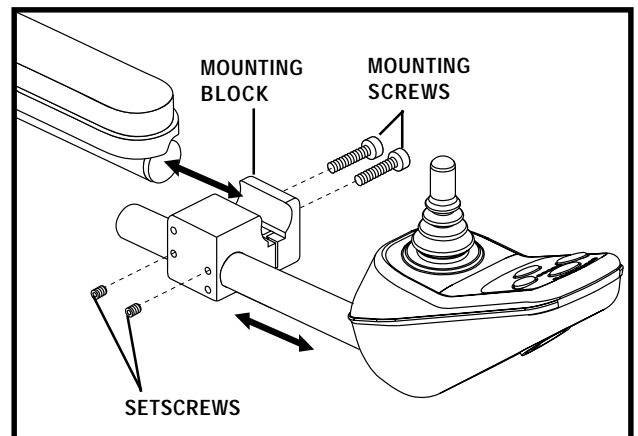

Figure 25. Mounting Block Controller Installation
4. Loosen the setscrews in the mounting block. See figure 25.
6. Loosen the mounting screws in the mounting block, move the mounting block to the other armrest, and tighten the mounting screws. See figure 25.